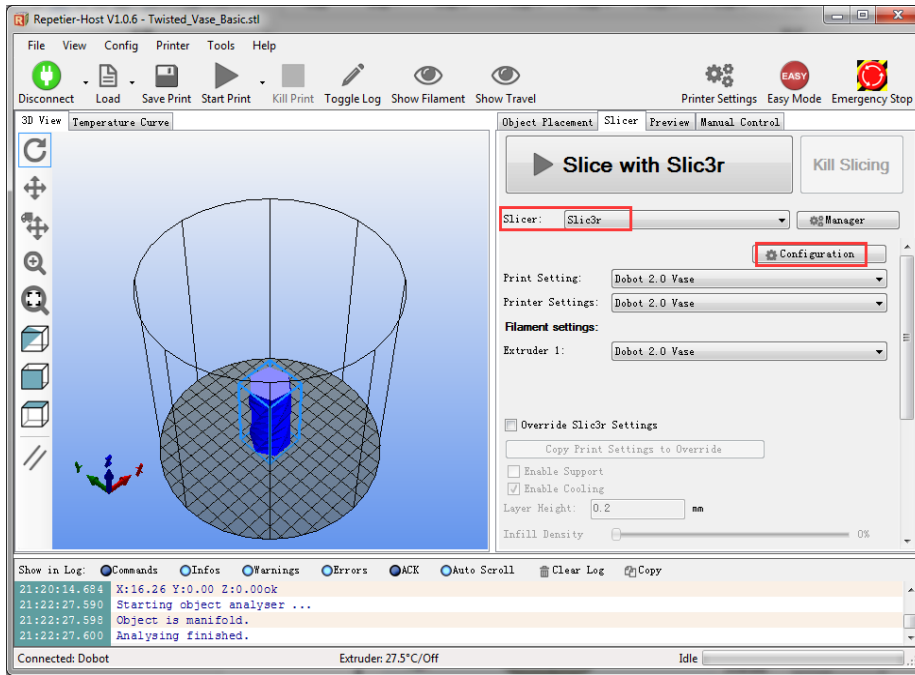

Figure 5.138 Select slicer
1. Select **Slic3r** from **Slicer** on the **Slicer** tab of the **Repetier Host** page, and click **Configuration**, as shown in Figure 5.138.